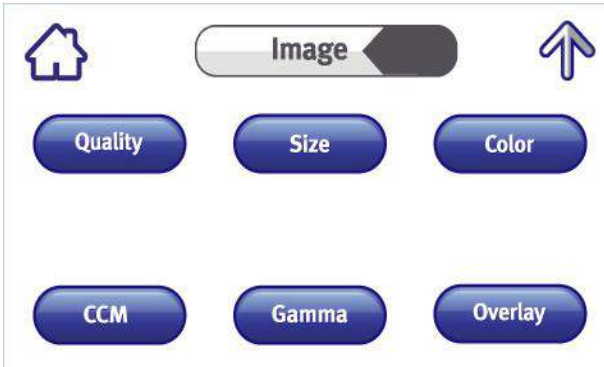

FIGURE 4-6: IMAGE SCREEN
2. Press **Image**. The Image screen (Figure 4-6) appears.
2. Press Image. The Image screen (Figure 4-6) appears.